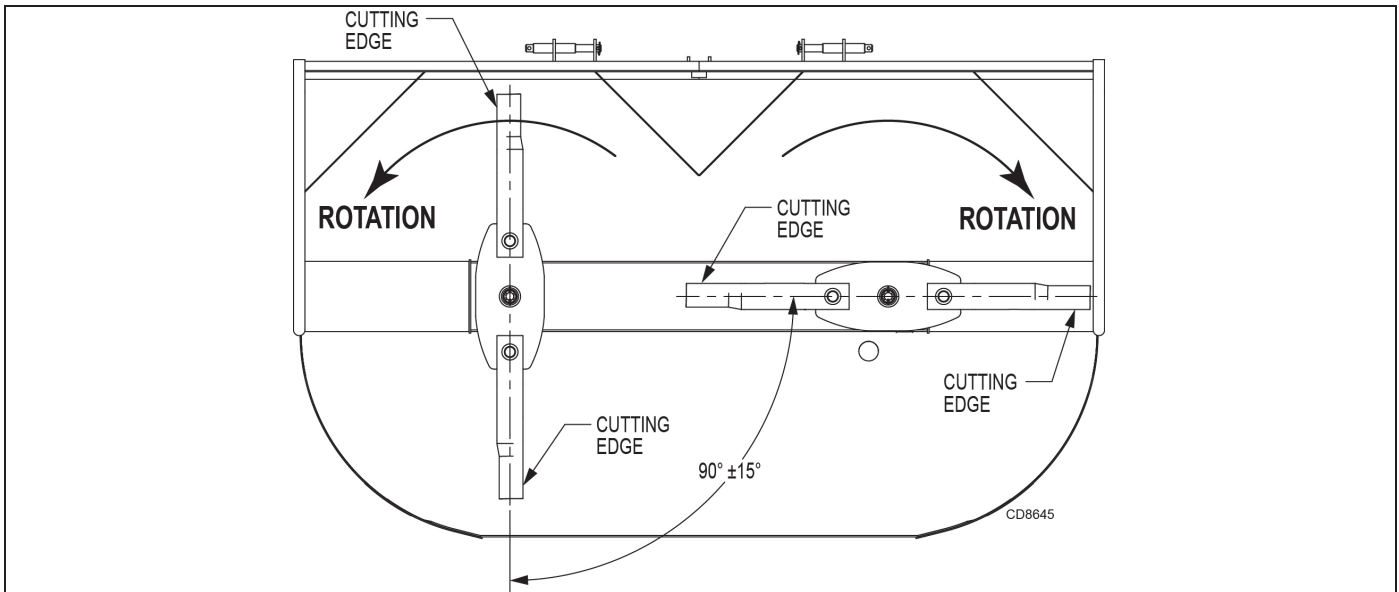

Figure 26. Crossbar Timing - Bottom View
1. To re-time crossbars, position bars as shown in Figure 26.